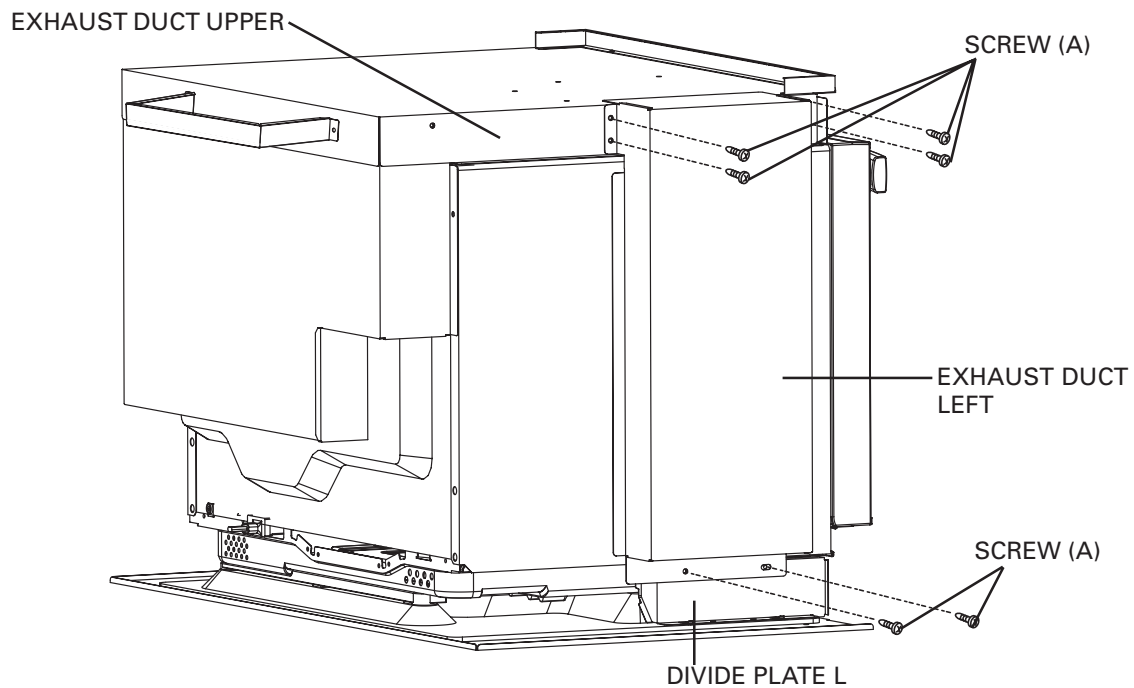

Figure 6
- ① Attach EXHAUST DUCT LEFT to the left wall of the oven.
- ② Tighten with 6 screws (A) as shown in Figure 6.